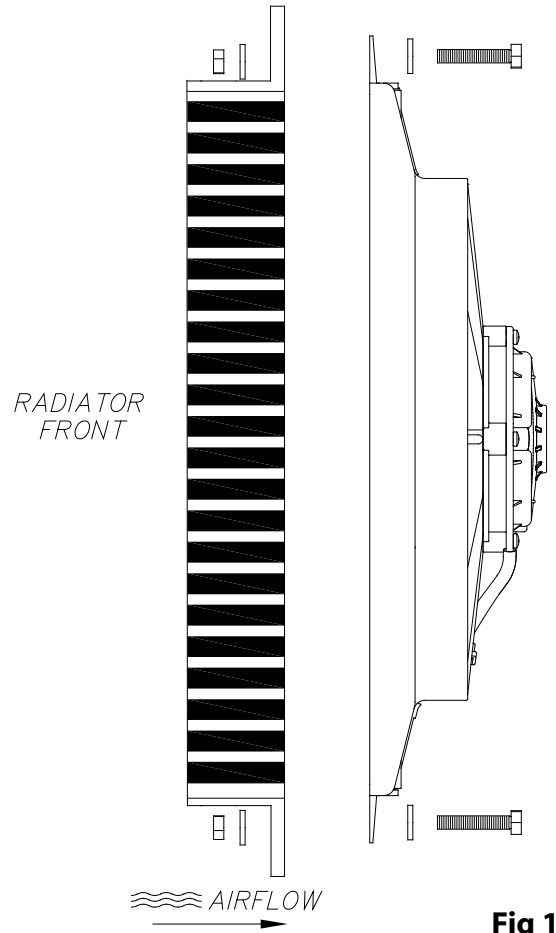

Fig 1
- We do not recommend the use of nylon tie kits or any other "through core" mounting methods for this fan assembly. The 225 watt motors used in this dual fan assembly are too heavy and produce too much starting torque to be supported by the radiator fins. MARADYNE® recommends drilling 1/4" or 5/16" holes through the top and bottom mounting flanges and U-channels of the radiator taking care not to damage the radiator core. MARADYNE® recommends the use of 6 mounting points (3 top & 3 bottom) to affix the fan assembly to the radiator. A minimum of 4 mounting points are required. MARADYNE® also recommends using nylon locking nuts with the chosen metal bolts to prevent the nuts from backing out due to vibration. (See Fig. 1)